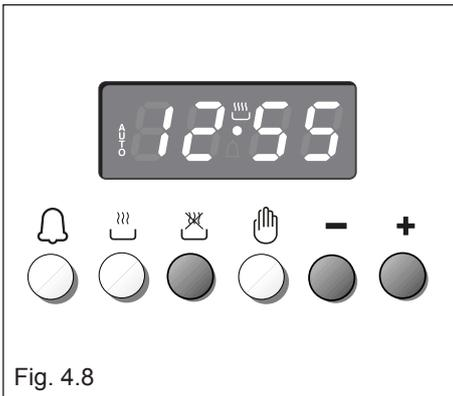

Fig. 4.8
2. Set the end of the cooking time by pushing the  button and the **+** button to advance, or **-** to go backwards if you have passed the desired time (fig. 4.8).